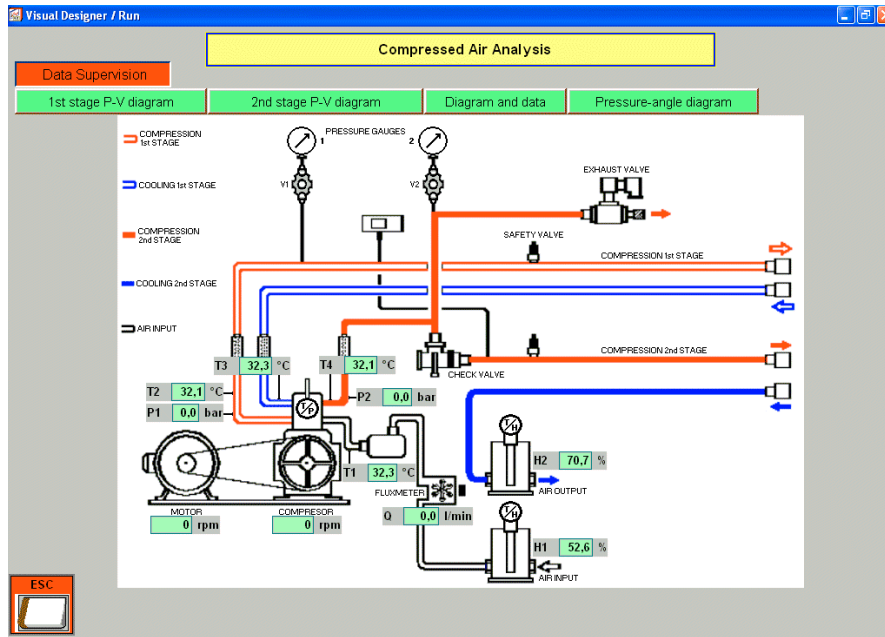

Figure 5: Compressor air analysis window.
2. Pressing button “**Compressed Air Analysis**” you enter the following display see figure 5, where you find the main components of the equipment, the temperature values, the pressures, the air relative humidity at the bench inlet and outlet, the value of the suction air flow, the number of turns of the compressor.
On the top of the syn-optical diagram as shown in figure 5, there are four buttons which, when pressed with the mouse, allow to enter the thermodynamics elaborations, based on the values acquired by the probes.
3. On a table record the readings of all parameters that appear on the main diagram by selecting data supervision (see figure 5). In addition record electrical power (current and voltage). See the attached data sheet.